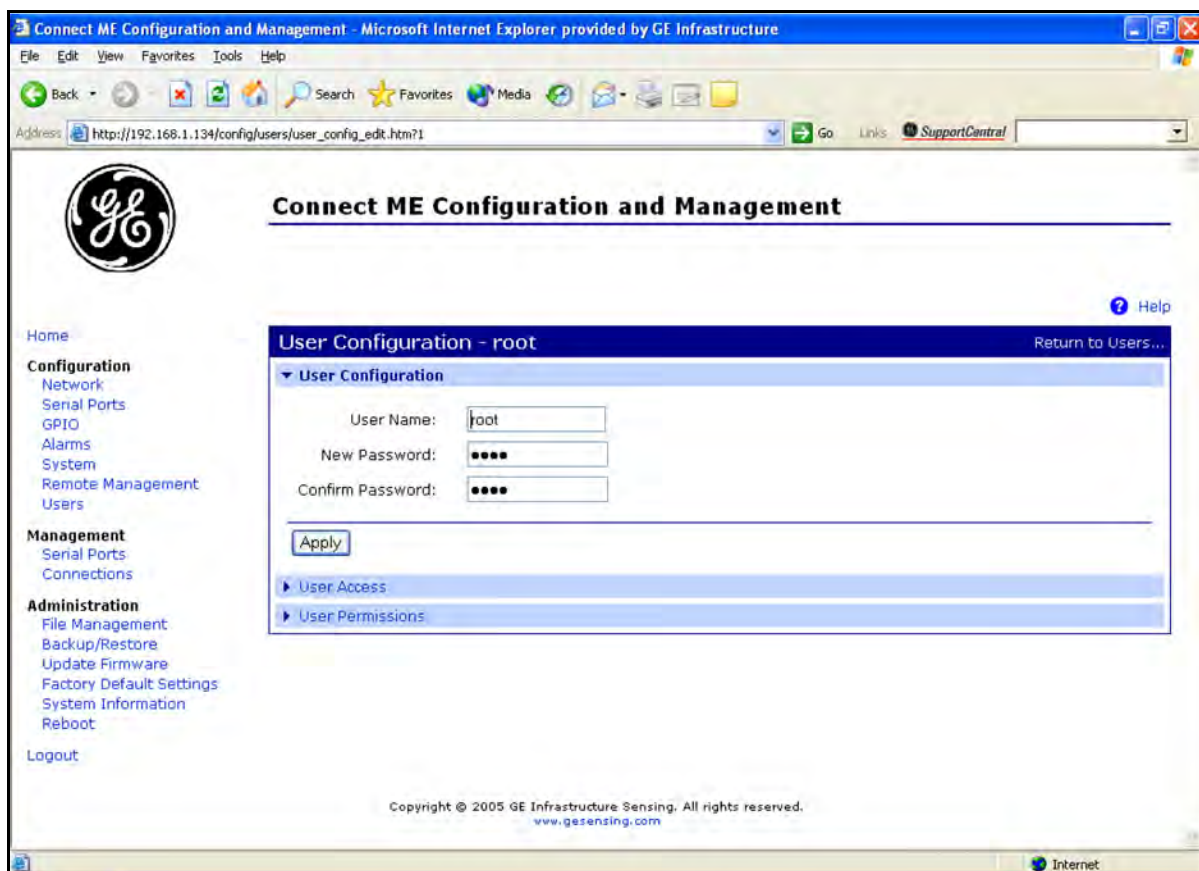

Figure 26: Changing the User Name and/or Password
5. Click on **New...** Figure 26 on page 46 appears.